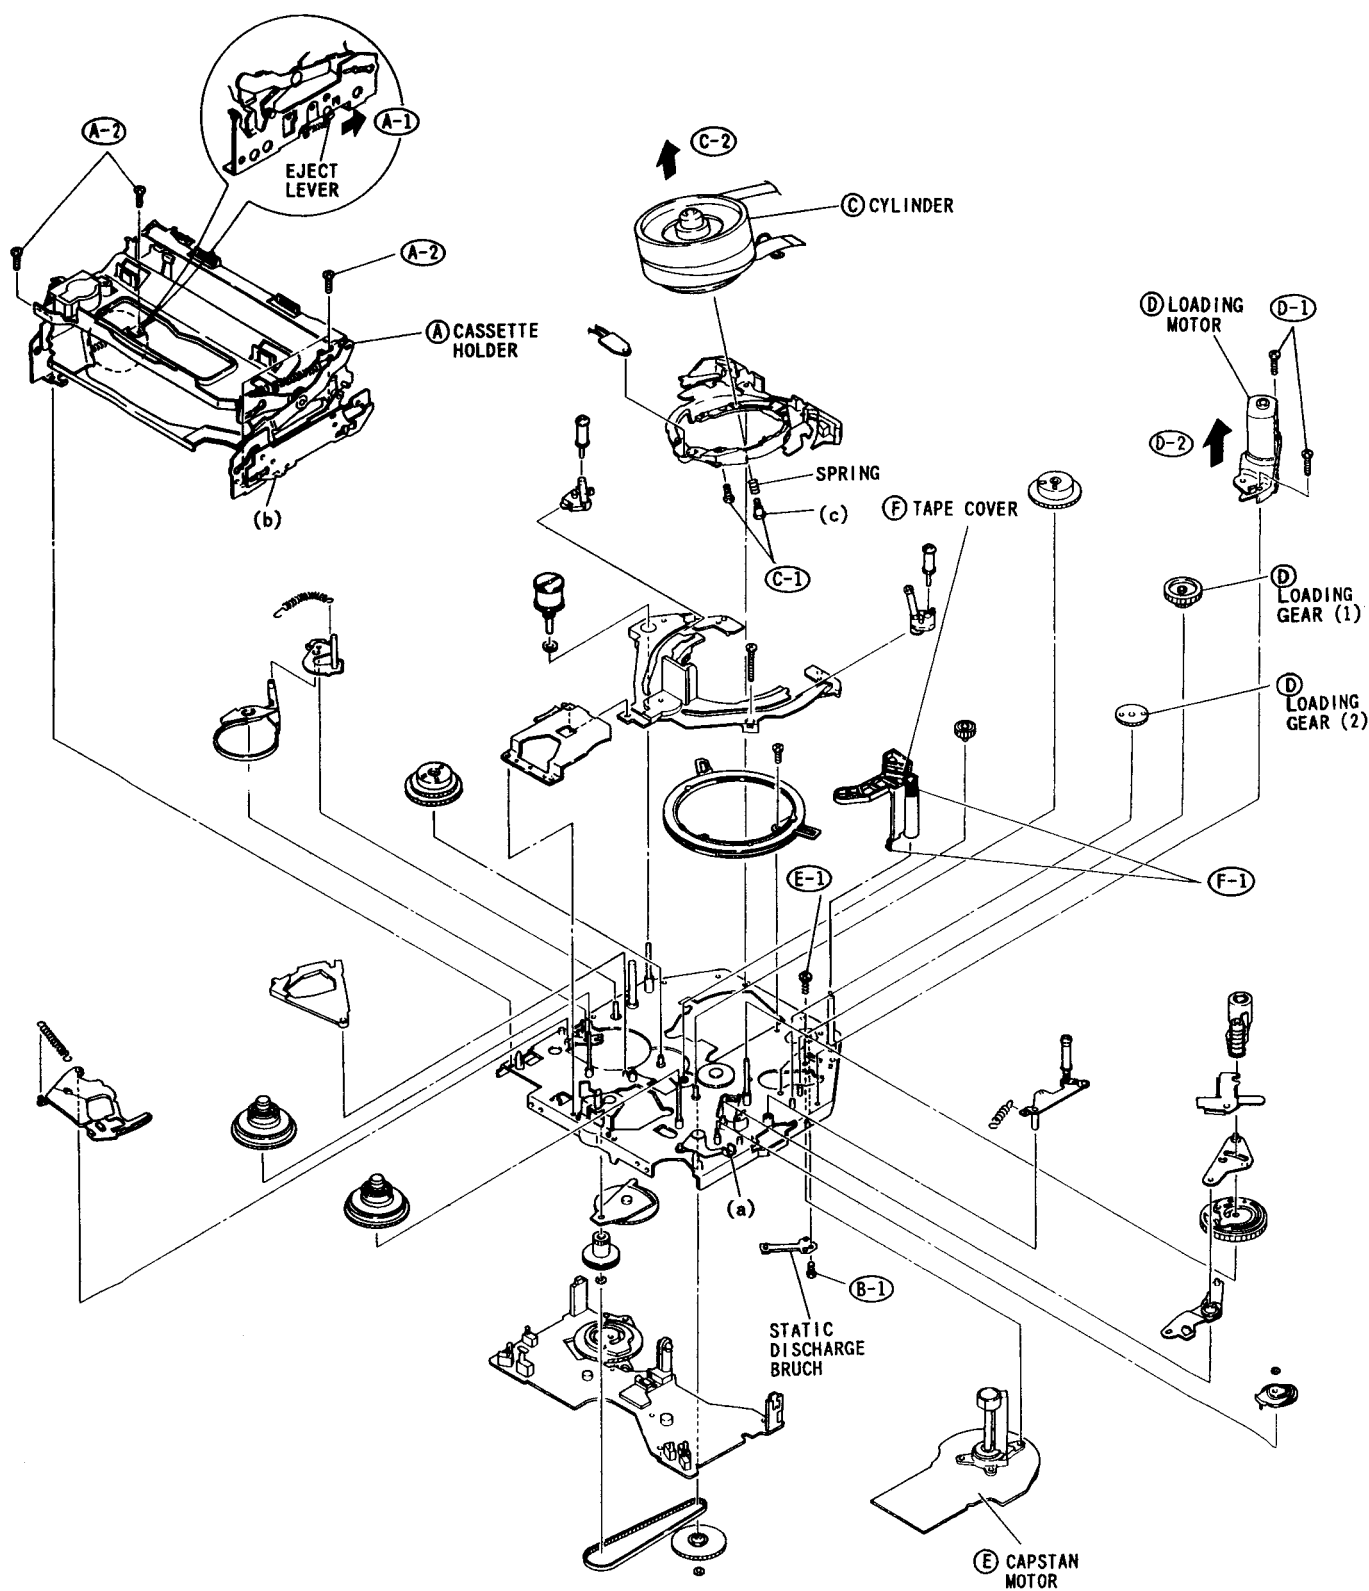

Fig. 4-2
4.1.1 Cassette Holder, Static Discharge Brush, Cylinder, Loading Motor, Loading Gears (1) and (2), Capstan Motor and Tape Cover Removal
A. Cassette Holder (Fig. 4-2)
2) Remove four (4) screws.
B. Static Discharge Brush (Fig. 4-2)
1) Remove one (1) screw.
C. Cylinder (Fig. 4-2)
1) Remove two (2) screws.
D. Loading Motor, Loading Gears (1) and (2) (Fig. 4-2)
• Loading Motor and Loading Gears (1) and (2) 4-2
1) Remove three (3) screws. (See Fig. 4-2)
F. Tape Cover (Fig. 4-2)
1) Release two (2) tabs.